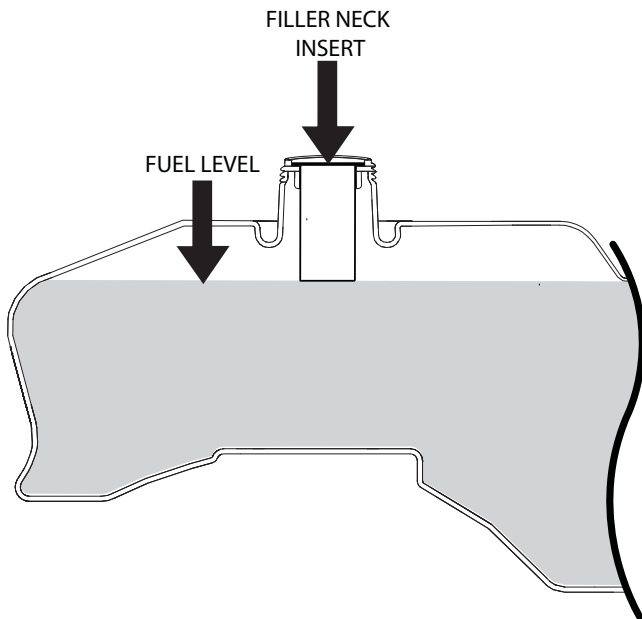

Figure 7-6. C.A.R.B. / EPA Phase 3 Fuel Level
Fill the fuel tank at the beginning of each operating day. For EPA Phase 2 (produced prior to 1/1/2011) models, fill to within one (1) inch below the filler neck. For Low Emission (LE) and EPA Phase 3 (produced after 1/1/2011) models, fill to the bottom of the filler neck insert (approximately 4 gallons RH Fuel Tank and 3 Gallons LH Fuel Tank) at the beginning of each operating day. See Figure 7-6. Do not overfill. Use clean, fresh unleaded gasoline with a minimum octane rating of 87 and a maximum of 10% Ethanol.